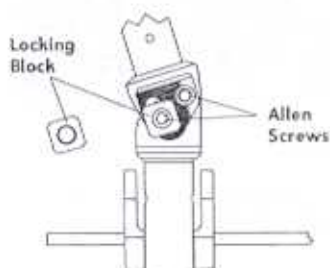

Figure 48
1. Loosen the allen screws that are holding the clamp together [Figure 48].